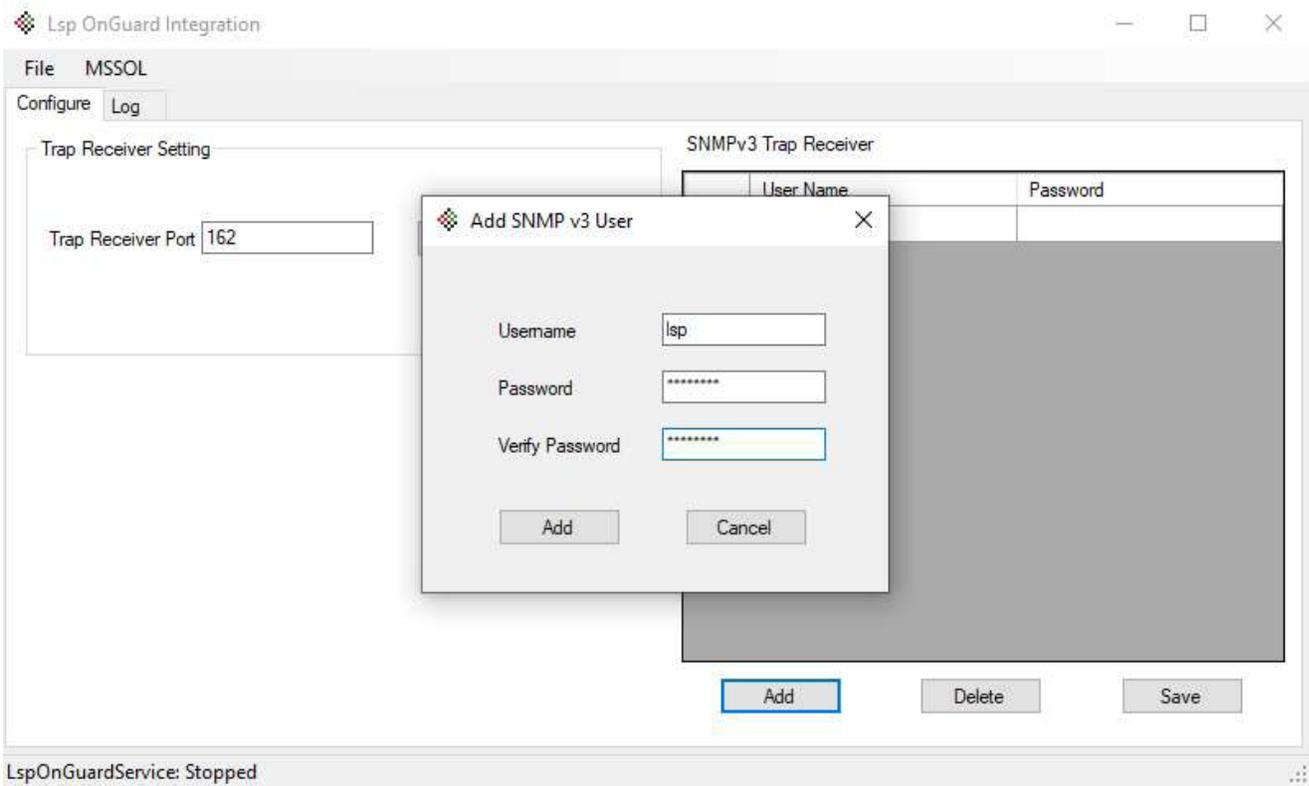

Figure 12
- 8. Once logged in, the LSP OnGuard Integration form will be displayed. See Figure 12.